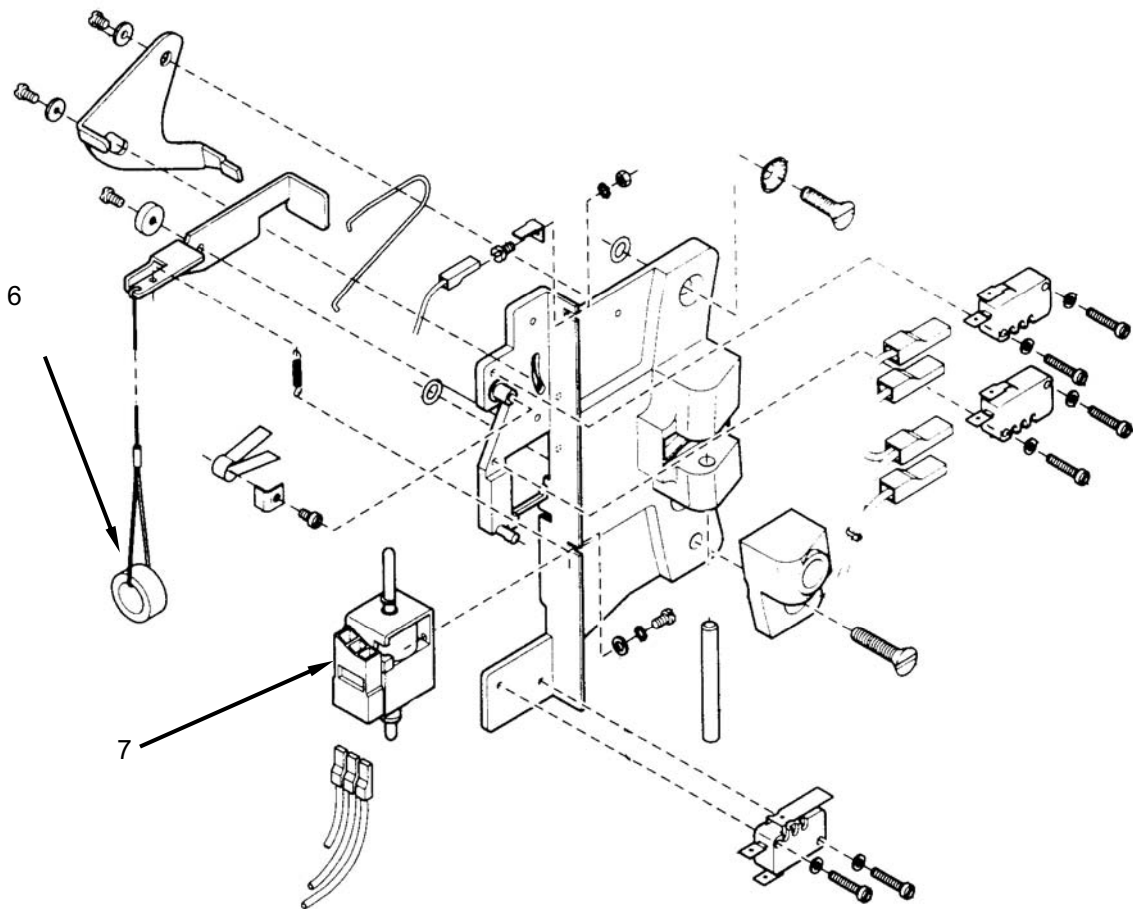

Figure 4. Test the Door Lock Solenoid.
2. Cut the wire ties (**Figure 4, Item 1**) retaining switch wiring to the washer frame. There may be one or two wire ties.
3. Pull down on release (**Figure 4, Item 6**) and then open washer door.
4. Remove screws retaining door strike assembly (**Figure 4, Item 2**) and remove door strike assembly.
5. Tag and disconnect wiring from solenoid (**Figure 4, Item 7**).
7. Replace an open solenoid (**Figure 4, Item 7**).
8. Connect wiring to solenoid (**Figure 4, Item 7**) as tagged.
9. Install door strike assembly (**Figure 4, Item 2**) and retain with screws.